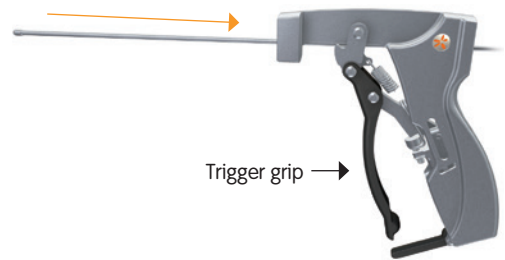

Figure 12
2. Insert the smooth end of the 3.0mm Ball Tip Guide Rod (71631626) into the front of the Gripper (Figure 12) and gently close the trigger grip.